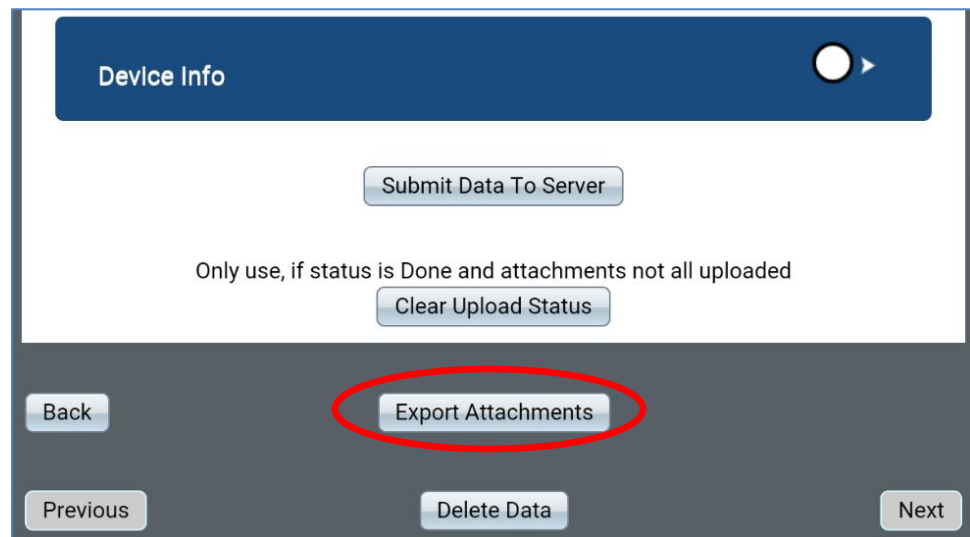

Figure 11: Export Attachments button
2. In the Records step (Figure 11), scroll to the bottom of the page and tap **Export Attachments**.